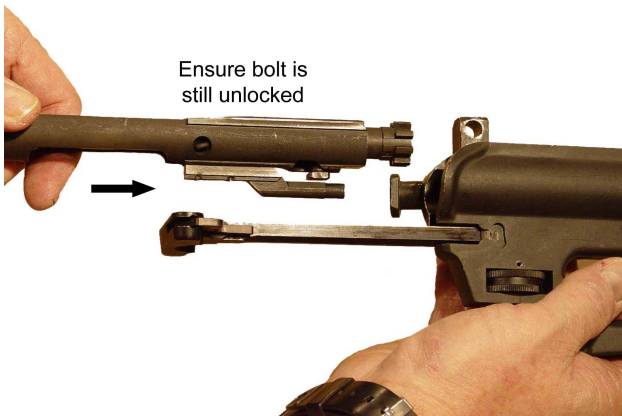

Figure 3-27. Bolt Carrier Group
- b. Slide in bolt carrier group. Refer to Figure 3-27.